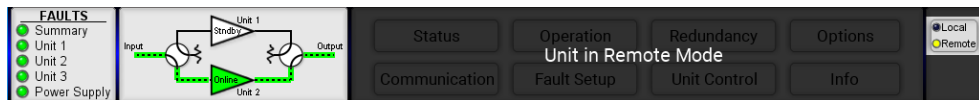

Figure 97: Remote Only Mode
**Note:** When the unit is set to Remote Only mode, the Control Mode button will appear in the top position of the Action Buttons area, whether or not it was selected by the user. See Figure 97.